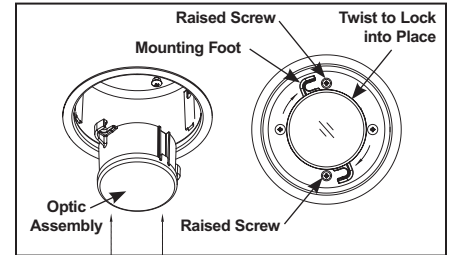

Figure 7
**Step 3.** Insert optic assembly into housing, with mounting feet aligned with raised screws. Twist optic assembly clockwise so mounting feet engage screws. Twist firmly to lock in place (Fig. 7).
**Step 2.** Remove optic assembly from housing by twisting counter-clockwise to unlock. (Fig. 7)